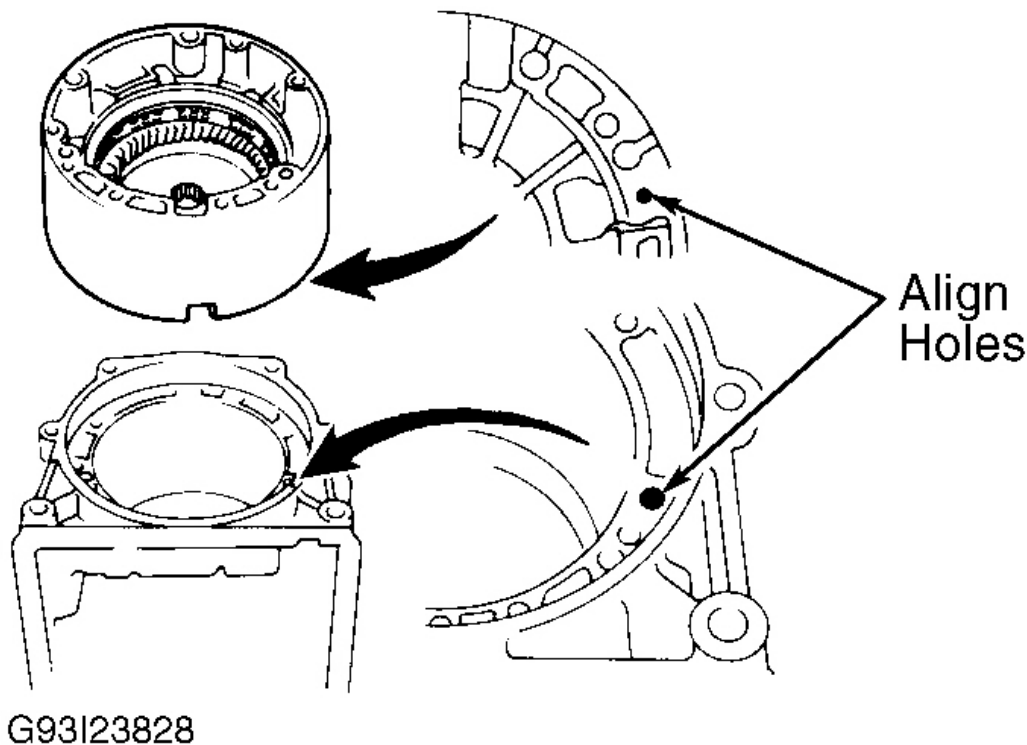

Fig. 51: Aligning OD Case & Transmission Case Oil Holes
7. Install OD case with cutout area of OD case aligned with cutout in transmission case. See **Fig. 51** . Install thrust washer on OD case and OD planetary gear. Ensure washer lugs align with holes in OD case and planetary gear assembly. Install bearing race on OD planetary gear assembly.